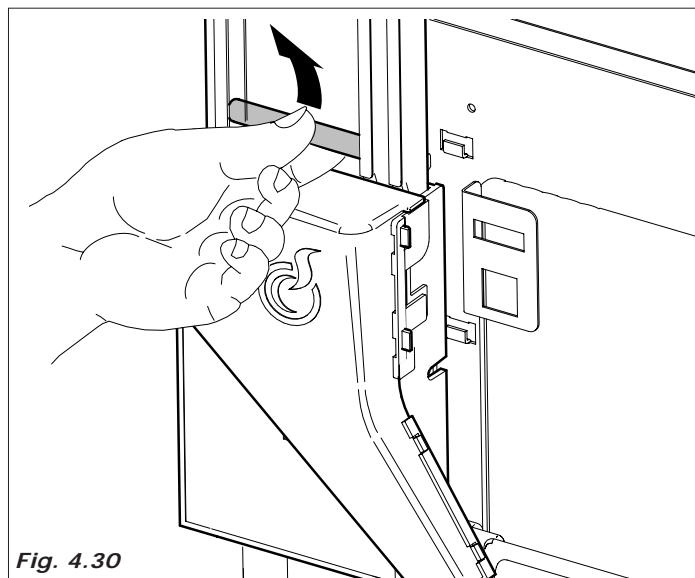

Fig. 4.30
- Remove the metal weight from the spoon dispensing column (Fig. 4.30)